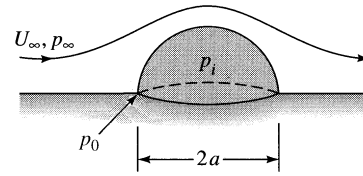

Fig. P8.99
**8.99** Consider air flowing past a hemisphere resting on a flat surface, as in Fig. P8.99. If the internal pressure is  $p_i$ , find an expression for the pressure force on the hemisphere. By analogy with Prob. 8.49 at what point A on the hemisphere should a hole be cut so that the pressure force will be zero according to inviscid theory?